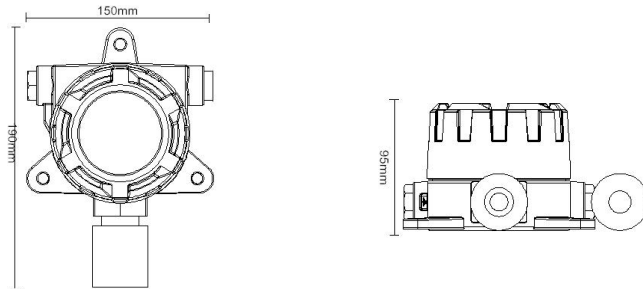
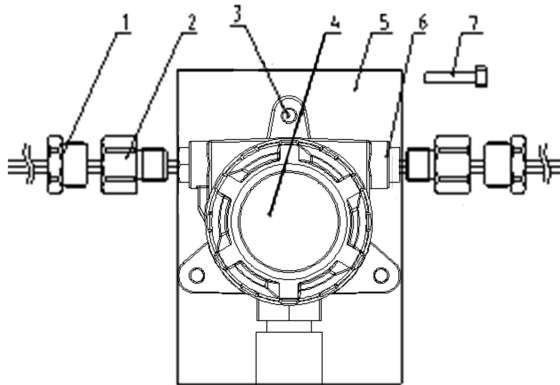

Fig 1. appearance
Fig. 4 Wall-hung method 1
The detector's appearance shows as the above in Fig1., there are installing holes behind the device. Users only need to connect relative equipment at the corresponding port according to the operation manual, after DC 24V connected, it will work properly.
**Method(Wall-hung method):**If the user need to install the detector on the wall, please choose an appropriate metope according to the transmitter structure dimension in Fig 1, then fix the transmitter using three pieces of M6×70 bulge bolts to fix the detector in the corresponding installed orifice(As shown “3” in the Fig.3 and Fig. 4). Then choose transferring tie-in in the need
of the customer, as shown in Fig.3; if not, as shown in Fig.4, fit it up and it's ok.